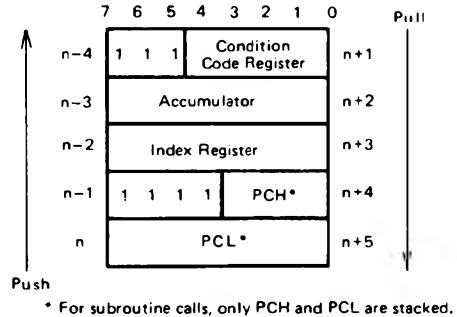

Figure 8 Interrupt Stacking Order
The MCU can be interrupted three different ways: through the external interrupt (INT) input pin, the internal timer interrupt request, and a software interrupt instruction (SWI). When any interrupt occurs, processing is suspended, the present MCU state is pushed onto the stack in the order shown in Fig. 8, the interrupt bit (I) in the condition code register is set, the address of the interrupt routine is obtained from the appropriate interrupt vector address, and the interrupt routine is executed. Since the stack pointer decrements during pushes, the low order byte (PCL) of the program counter is stacked first; then the high order five bits (PCH) are stacked. This ensures that the program counter is loaded correctly as the stack pointer increments when it pulls data from the stack. A subroutine call will cause only